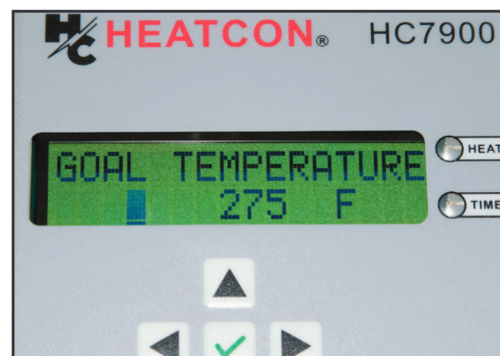

Figure 10
9. The Controller will ask you for the goal temperature, use the Up and Down arrow keys to set the proper temperature. Push the \checkmark key to enter the temperature (Fig. 10)